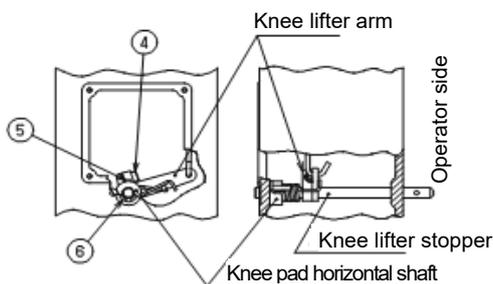

Fig. 4
Loosen the knee lifter arm tightening screw ④ (one place) and the knee lifter stopper setscrew ⑤ (one place). (Fig. 4)
Remove the E-ring ⑥ (one place) attached to the end of the knee pad horizontal shaft and pull out the knee pad horizontal shaft towards the operator. At this time, support the knee lifter arm, knee lifter stopper and the knee lifter spring with your hands to prevent them from falling. (Fig. 4)